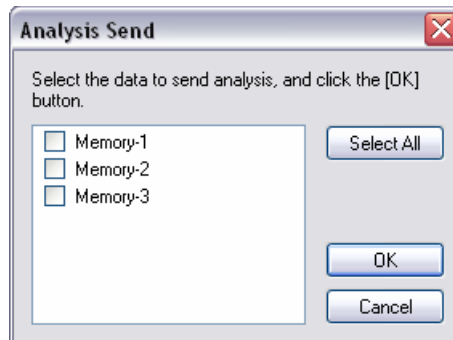

Figure. 4.10 [Save As...] dialog box
- (1) Click [Analysis Send] from the [File] menu or click  in the [Spectra Measurement] window. The [Spectra Analysis] window is automatically opened.
- (2) When [Cycle Times] is selected, the following dialog box appears after clicking [Analysis Send] (in Fig. 4.10, Cycle Times is set to 3).
- (3) Insert checkmarks in the boxes of Fig. 4.10 and click the <OK> button. The selected data are transferred to [Spectra Analysis]. All the data can be transferred to [Spectra Analysis] by clicking <Select All>.
**Note :** *If sample data is not saved (see [Save Data]), a filename is automatically assigned such as “Memory”. For the case [Cycle time] when is specified, the filenames are assigned as “Memory-1”, “Memory-2”, “Memory-3”... (see Fig.4.10). When sample data is saved, the filename can be renamed.*